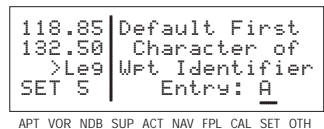
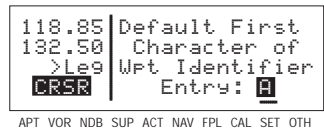

Figure 4-41
Figure 4-42
- Select the SET 5 page (figure 4-41) and turn on the cursor (**CRSR**) (figure 4-42).